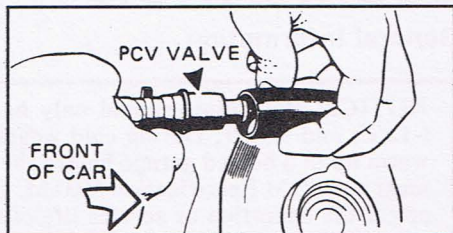

Figure 2 - Removing PCV valve
1. Firmly grasp the PCV valve (with hose attached) as close to the grommet as possible. Pull the valve out of the grommet with a twisting motion. See Figure 2. It may be necessary to roll the end of the grommet back in order to remove the PCV valve.